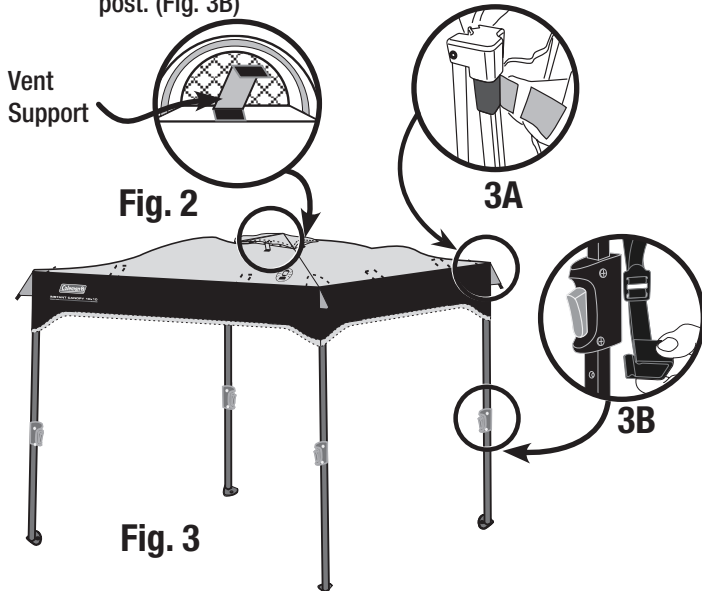

Fig. 3
- Drape shelter top over frame. (Fig. 3)